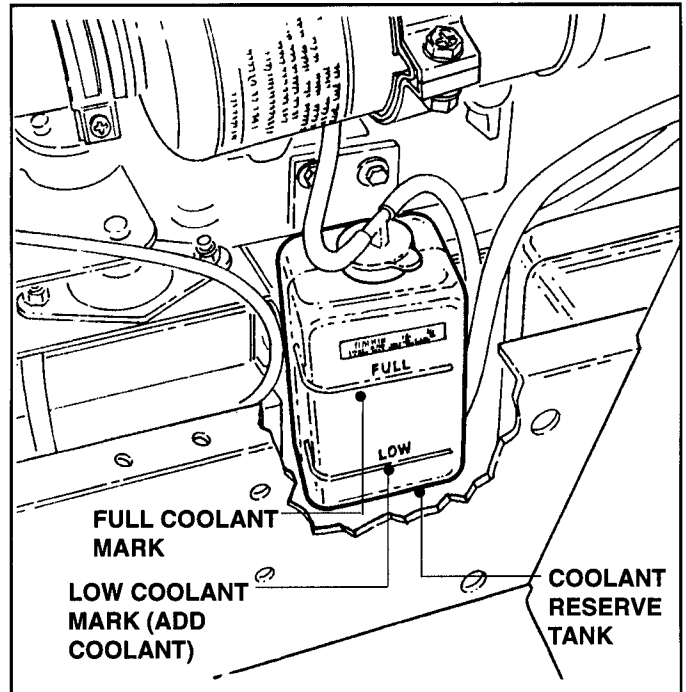

FIGURE 5.7
1. **COLD ENGINE ONLY** - Check Engine Coolant (antifreeze/water) and add Coolant in the Reserve Tank as needed to bring level up to the FULL mark. See Figure 5.7.